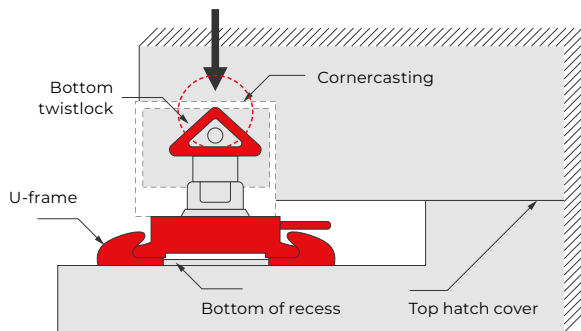

Figure 1 Top of cone is hitting the inner body of the corner casting, top of hatch cover is to low for bottom twistlock with lengthened cone shaft.
- Figure 1: the recess is not deep enough. Line load twistlocks are designed for recesses of 72-80mm